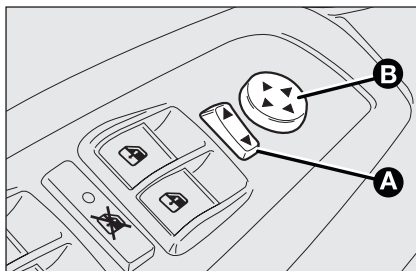

fig. 35
- use switch **A**-fig. 35 to select the mirror required (left or right);